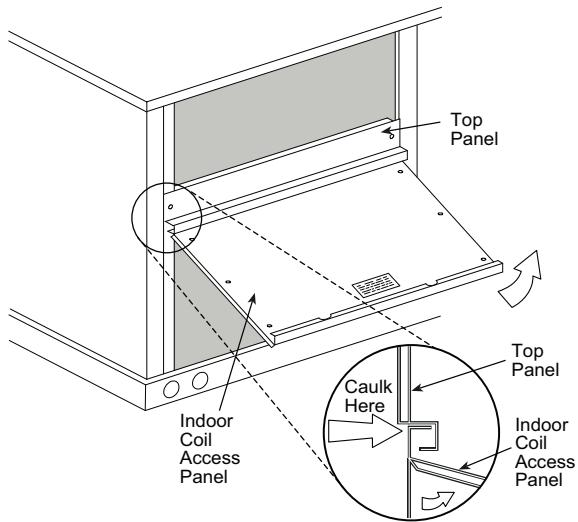

Fig. 12 — Indoor Coil Access Panel Relocation
- The indoor coil access panel will be used as the top of the hood. Remove the screws along the sides and bottom of the indoor coil access panel. See Fig. 12.